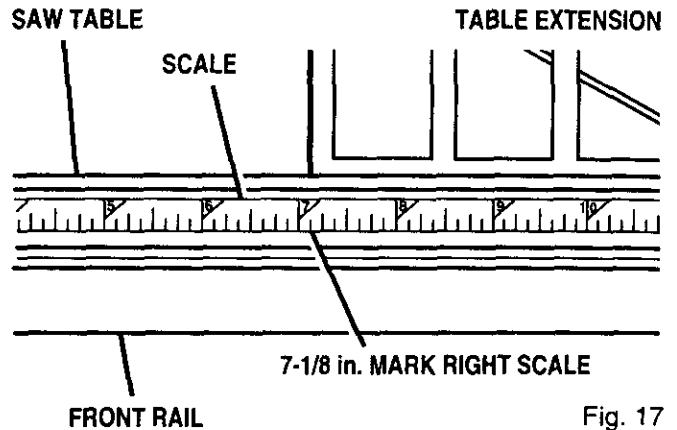

Fig. 17
- Align the right rail from left to right - Match the 7-1/8 in. mark on the right scale to the right edge of the saw base (main table). See Figure 17.